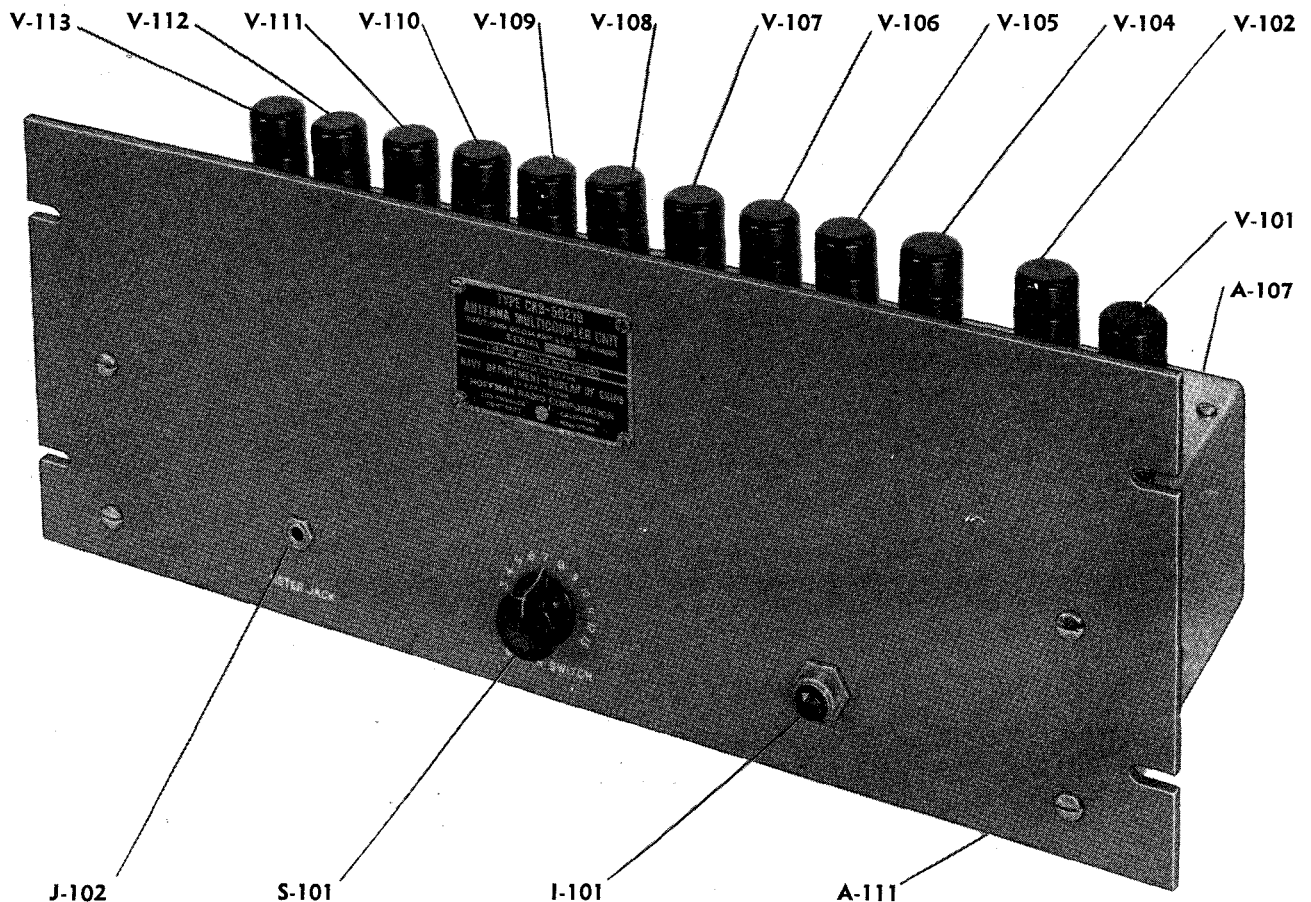

Figure 1-2. Model RXA Antenna Multicoupler Assembly, Antenna Multicoupler Unit
a. MULTICOUPLER UNIT. (See figure 1-2). —This unit, as part of the Antenna Multicoupler Assembly, is capable of operating up to ten Navy communications receivers on one antenna without interaction between receivers. Eleven coaxial connectors located on the back of the multicoupler unit chassis provide input and output connection facilities for the unit. A four-contact male receptacle is also located at the rear of the chassis for power input to the unit. A thirteen-position METER SWITCH is mounted on the front panel together with a METER JACK and indicator light.